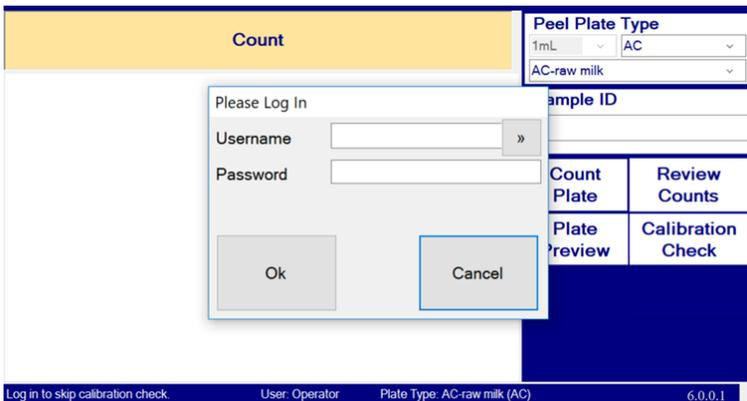

Figure 6
- Program prompts for **Username** and **Password**, (Figure 6). Press any button on keyboard to activate keyboard and then enter login information.
- If the Login is cancelled, the Counter reverts to the log in window, (Figure 6).